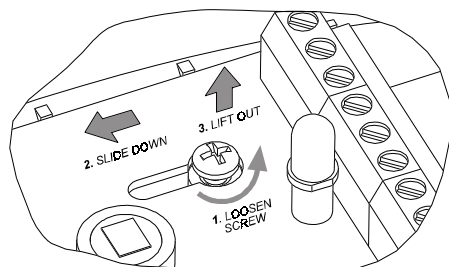

Figure 4. PCB Removal
B. Loosen the vertical adjustment screw, slide the PCB down and remove it via the "keyhole" (see Figure 4).
B. Remove the PCB (see Figure 4) and put it temporarily aside.